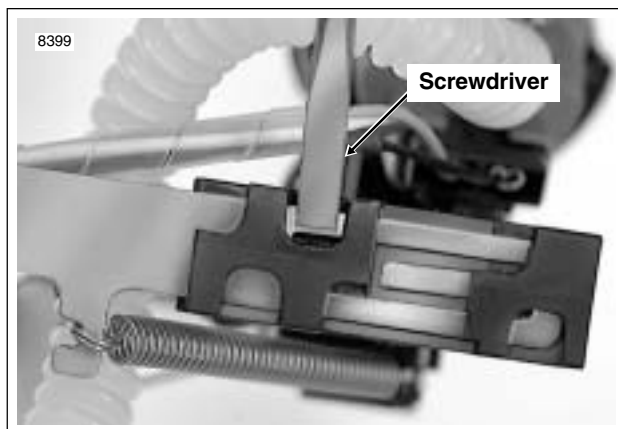

Figure 9-20. Crack Hinge to Remove From Support Arm
6. Insert flat tip screwdriver at location shown in Figure 9-20. Carefully crack plastic webbing at top of hinge and remove from support arm. Discard fuel pump and bracket assembly.